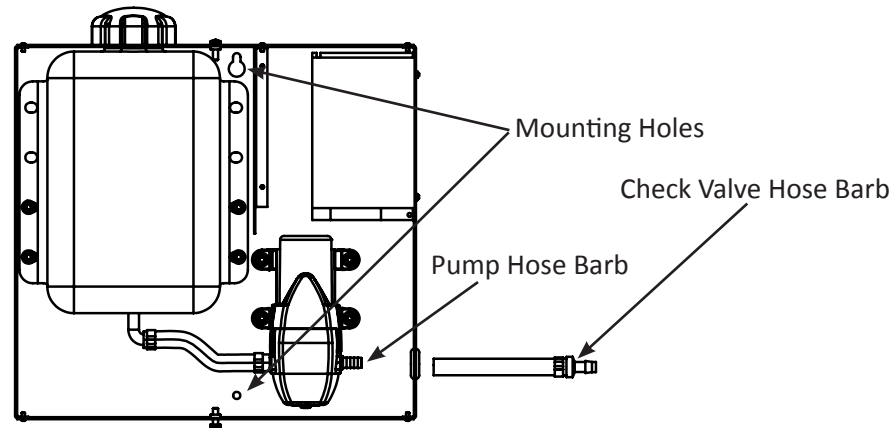

Figure 1: Geo-Booster with cover removed
1. Mount the Geo-Booster to a well supported structure such as a framed or concrete/masonry wall using appropriate mounting hardware (Figure 1).
2. Install the check valve by inserting the end of the flexible braided hose with the check valve attached through the rubber grommet in the right side of the cabinet (Figure 1) and securing to the pump hose barb with a hose clamp. Attach the long hose to the check valve hose barb fitting using a hose clamp. Ensure the hose will reach the intended plumbing point in the loop system.
2. Install the check valve by inserting the end of the flexible braded hose with the check valve attached through the rubber grommet in the right side of the cabinet (Figure 1) and securing to the pump hose barb with a hose clamp. Attach the long hose to the check valve hose barb fitting using a hose clamp. Ensure the hose will reach the PT plug in the elbow on the heat pump.
2. Install the check valve by inserting the end of the flexible braided hose with the check valve attached through the rubber grommet in the right side of the cabinet (Figure 1) and securing to the pump hose barb with a hose clamp. Attach the long hose to the check valve hose barb fitting using a hose clamp. Ensure the hose will reach the PT plug in the elbow on the heat pump.